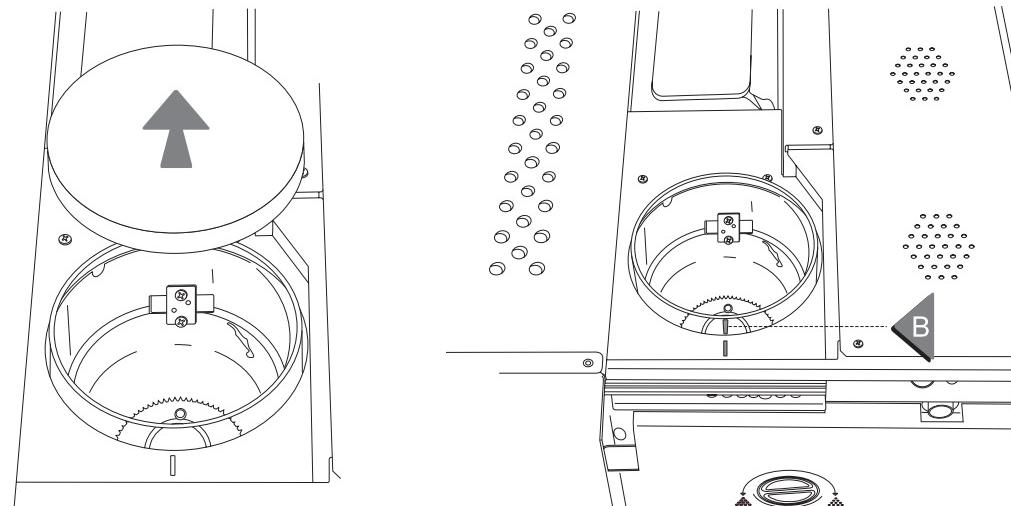

Fig. 6
N.B. To return to the manufacturer's setting, remove the cover and turn the knob until knob B (Fig. 6) on the coffee container is in line with the other knob on the side of the container.